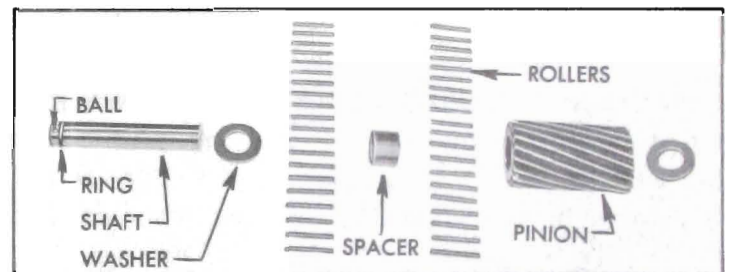

Figure 5-84—Low Planet Pinion, Disassembled
Note that the reverse planet pinions have a single set of rollers and the low planet pinions have two sets of rollers separated by a spacer. See figure 5-84.
1. Re-assemble planet pinions and shafts with bearing rollers and thrust washers. The bottom thrust washer goes between retaining ring on shaft and the end of pinion. Each reverse planet pinion contains 24 rollers. Each low planet pinion contains 20 rollers at each end separated by a spacer. See figure 5-84. Place a thrust washer on upper end of each assembly to hold rollers in place.